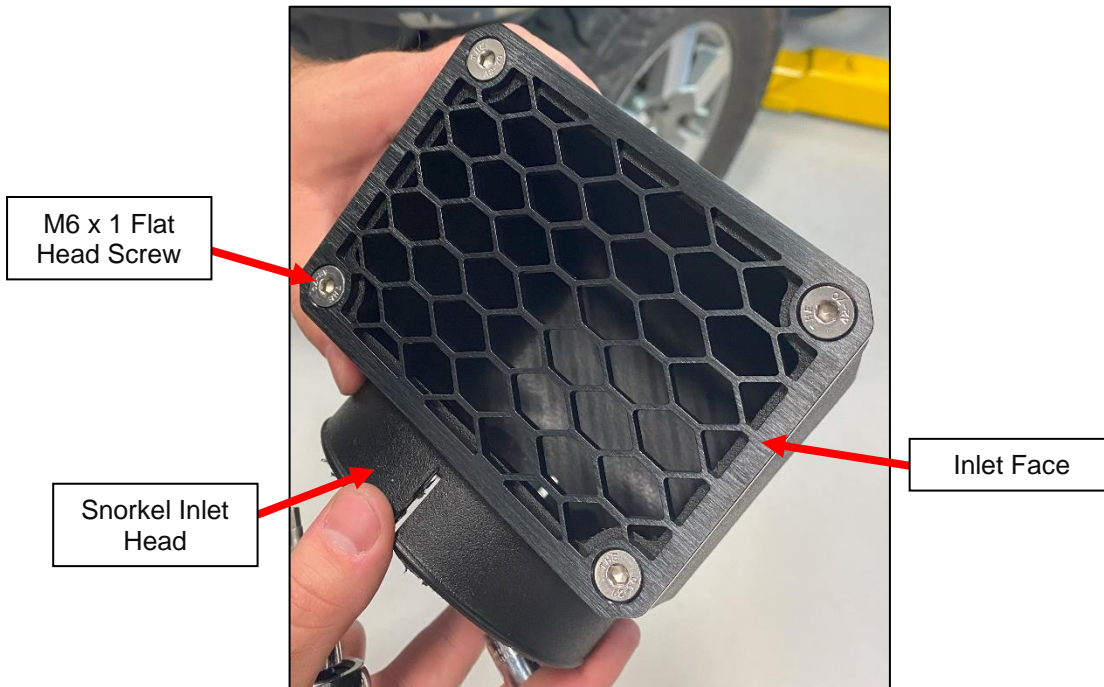

Figure 13
24. Locate the Snorkel Inlet Head, Inlet Face, and (4) four M6 x 1 Flat Head Screws, 10mm. Position the Inlet Face over the opening of the Snorkel Inlet Head and secure with the (4) four M6 Screws. *Figure 13.*